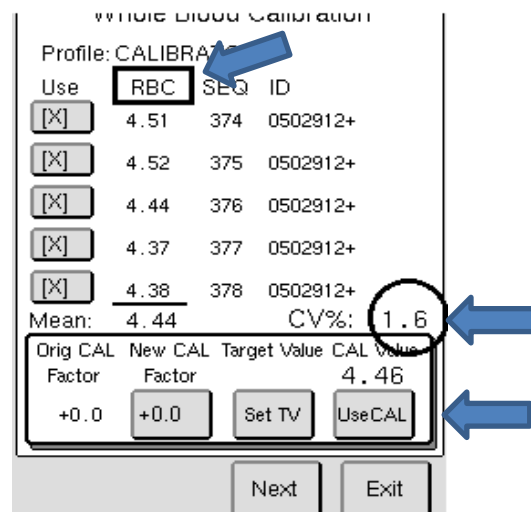

Figure 1
15. Your display should resemble Figure 1.
16. The CV% is indicated by the circle in Figure 1. The parameter you are verifying is indicated by the rectangle in Figure 1. Determine if the RBC CV% is less than the limit in the Open Tube column of Table 1 below.